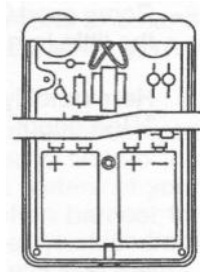

FIGURE 7A
**To insert new 9V. batteries:** (figure 7A) **Avoid doing dam-age to the snaps that hold the batteries in place by bracing the top of the clips with your fingers.** Line a bat-tery up carefully and squeeze the bottom of the battery with your thumbs until it snaps